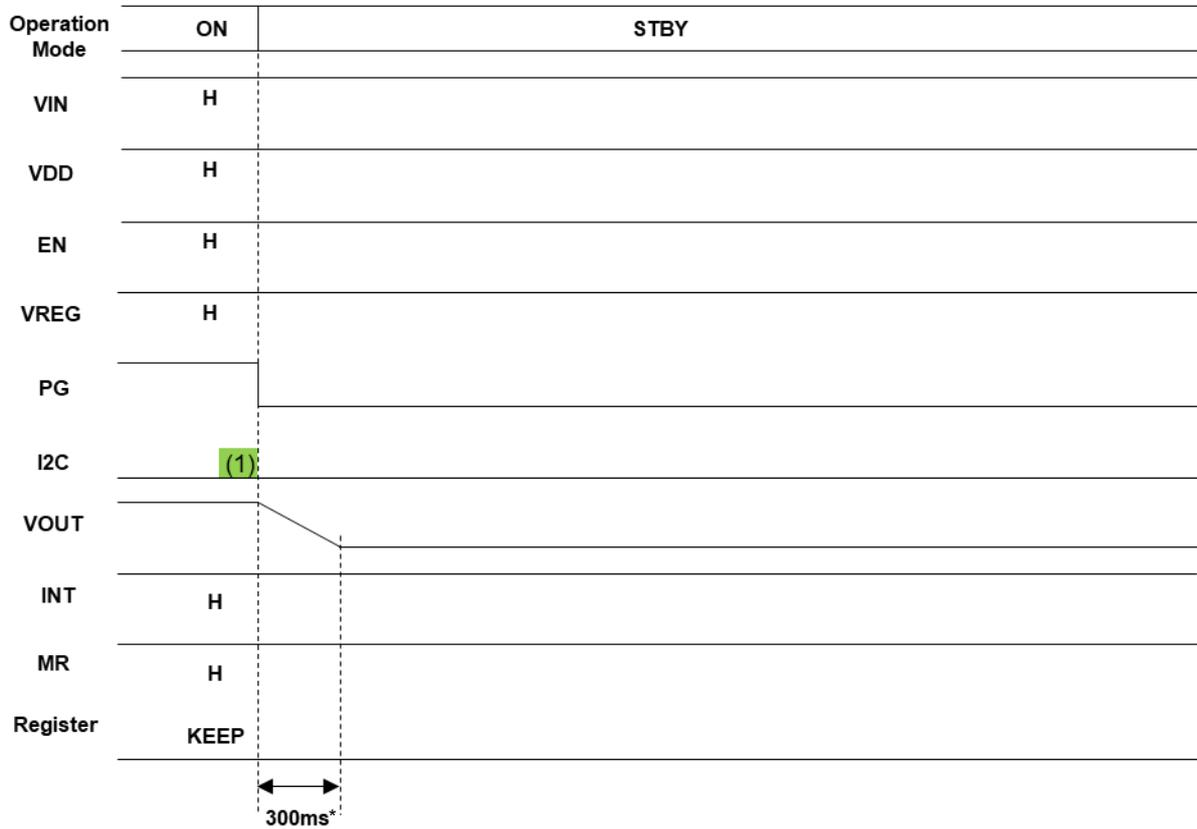

Figure 2.2 Stop Timing (ON to STBY)
Figure 2.2 shows the transition timing from ON Mode to STBY Mode. By writing "0" to the DCON bit in the DCDC ON register at ON mode, VOUT stops and is discharged through the built-in discharge circuit (1). The discharge circuit operates until the VOUT drops to 0.4 V(typ.). When it becomes 0.4 V(typ.) or less, the discharge stops and VOUT becomes HiZ.